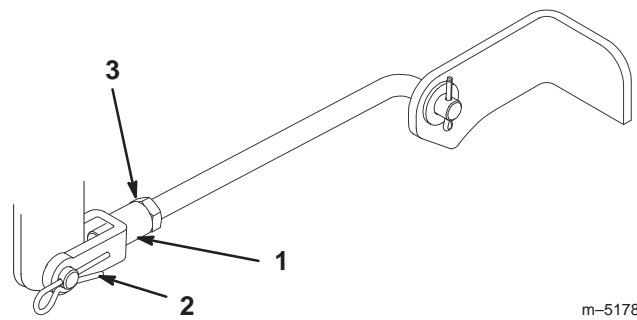

Figure 43
- To adjust the front-to-rear blade slope, remove the hairpin cotter from the front trunion yokes and loosen the jam nuts (Fig. 43).
- Rotate the yokes on the rods to change the adjustment (Fig. 43). To raise the front of the mower, tighten the yokes (shorten the rods). To lower the front of the mower, loosen the yokes (lengthen the rods).